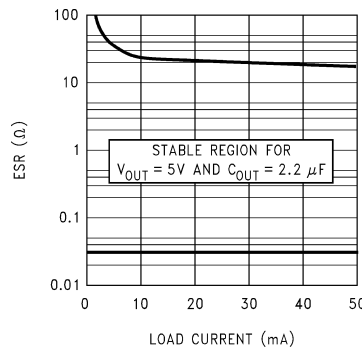
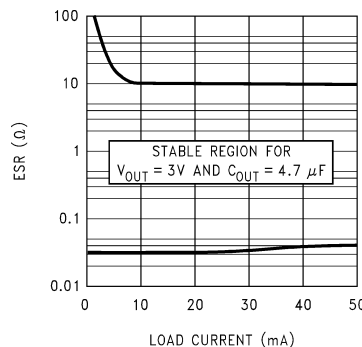

Figure 2. 5V/2.2  $\mu\text{F}$  ESR Curves
Figure 3. 3V/4.7  $\mu\text{F}$  ESR Curves
**Output Capacitor:** The output capacitor must meet both the requirement for minimum amount of capacitance and E.S.R. (equivalent series resistance) value. Curves are provided which show the allowable ESR range as a function of load current for various output voltages and capacitor values (refer to Figure 2, Figure 3).